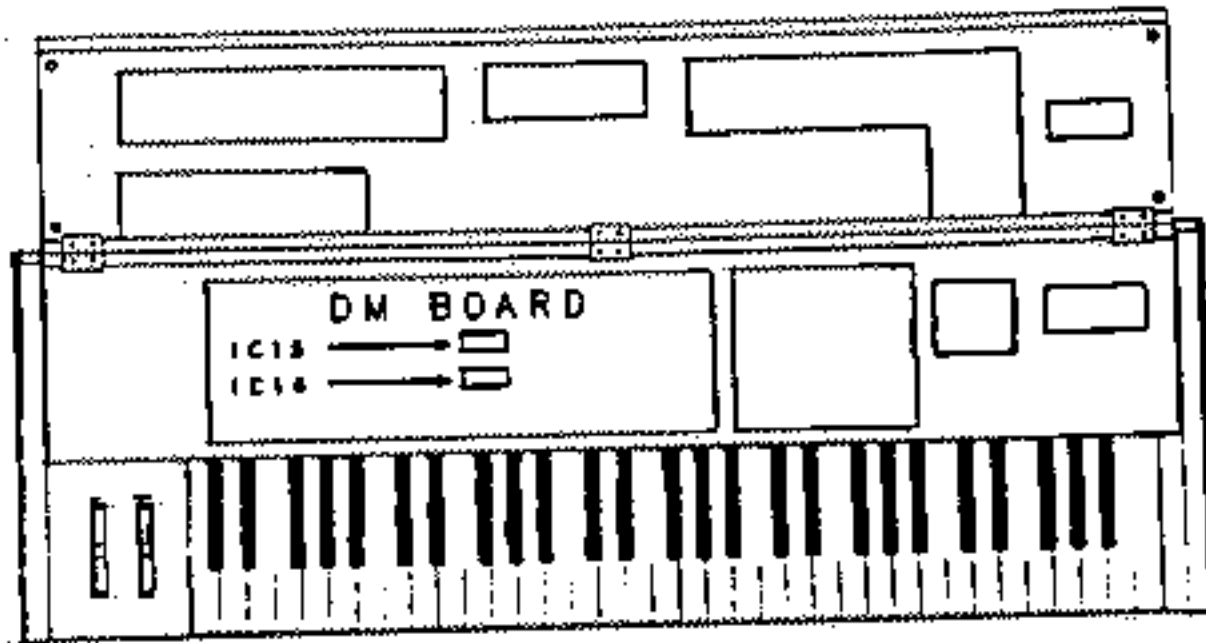

FIGURE A2
- STEP 3: Carefully lift-up the edge of the DX7's front control panel, closest to the keyboard and open it all the way until it is resting against the back edge of the DX7 case as shown in FIGURE A2.
- STEP 4: Referring to FIGURE A2, locate the RDM ICs (IC14 and IC15). These RDM ICs are located near the center of the Main Circuit board (the DM board). Before removing the RDM ICs, note the direction of the notch on IC14 for future reference. Remove the IC14 and IC15 RDM ICs by utilizing the SMALL FLAT-BLADE screwdriver to carefully pry the ICs loose from their respective sockets.